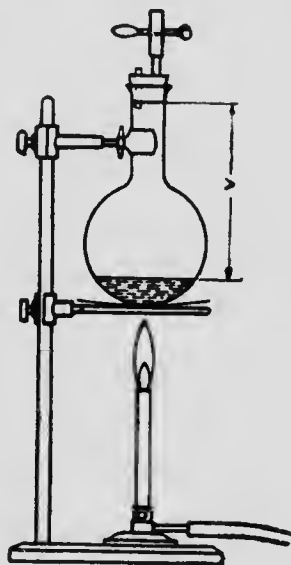

FIG. 45.
**Sketch.**—Fig. 45.
**Experiments.**—Place in the flask 25 cc. of water and set up the apparatus as shown in Fig. 45. Remove the pinch cock and boil the water briskly for a few minutes so that the steam may drive all the air out of the flask. **Stop heating. Quickly put on the pinch cock.** Allow to cool, and weigh when cold (*a*). Open the pinch cock and weigh again (*b*). (**Do not empty out the water**). The difference gives you the weight of the volume of air admitted to the flask (*c*). The volume (*v*) of air admitted is got by measuring with a graduate the amount of water needed to fill the flask to the bottom of the cork.